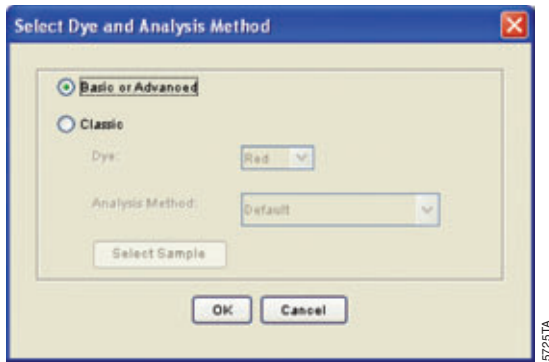

Figure 5. The Select Dye and Analysis Method window.
4. Select "Basic or Advanced" (Figure 5). The type of analysis method selected must match the type of analysis method created earlier. Select "OK".
4. Select “Basic or Advanced” (Figure 5). The type of analysis method selected must match the type of analysis method created earlier. Select “OK”.